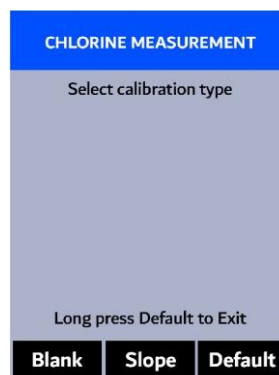

Figure 28.
4. Press **OK** to launch the **CHLORINE CALIBRATION** screen (Figure 28).
6. Rinse the main module sample cell three times with deionized (DI) water. Fill the sample cell with DI water.